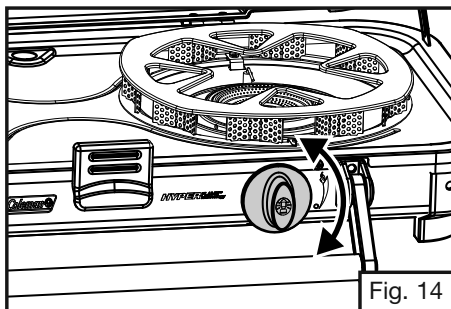

Fig. 14
4. Adjust flame with burner valves. (Fig. 14). Flame should be blue with a hint of yellow on tips.